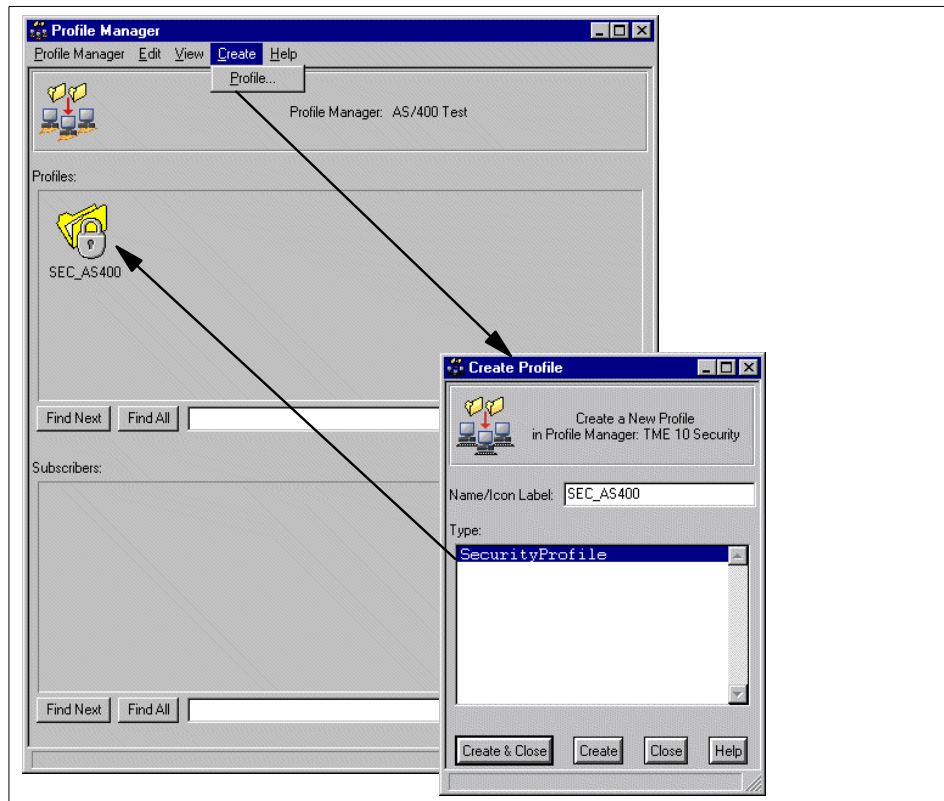

Figure 105. Creating Security profile
2. From the Profile Manager dialog box, select **Create -> Profile** from the menu bar as shown in Figure 105 on page 212.